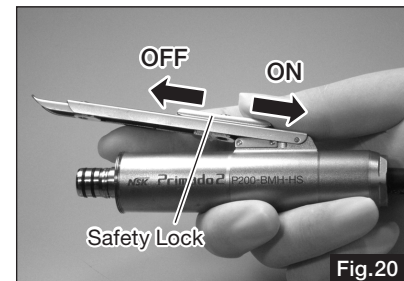

Fig.20
- 3) Hold the Hand Switch and slide the Safety Lock to ON. (Fig. 20)